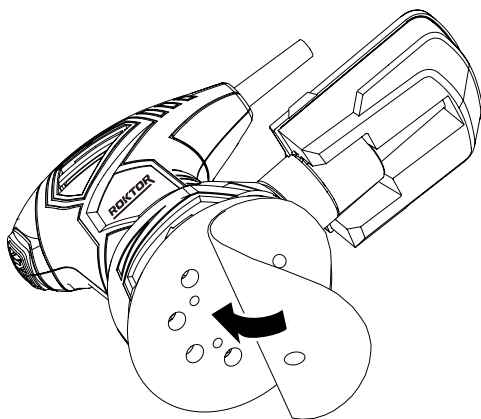

Figure 1
1. FITTING THE SANDING SHEET (SEE FIG. 1)